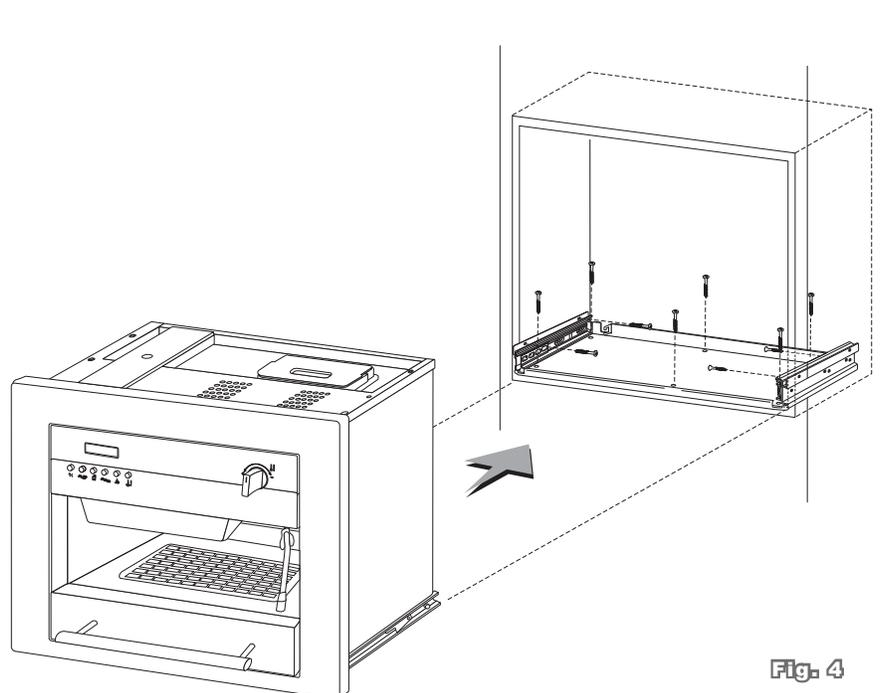

Fig. 4
3. Slide the base of the machine into the unit all the way back (2).
4. Attach the base to the shelf using the 10 holes and the screws provided (Fig.4).